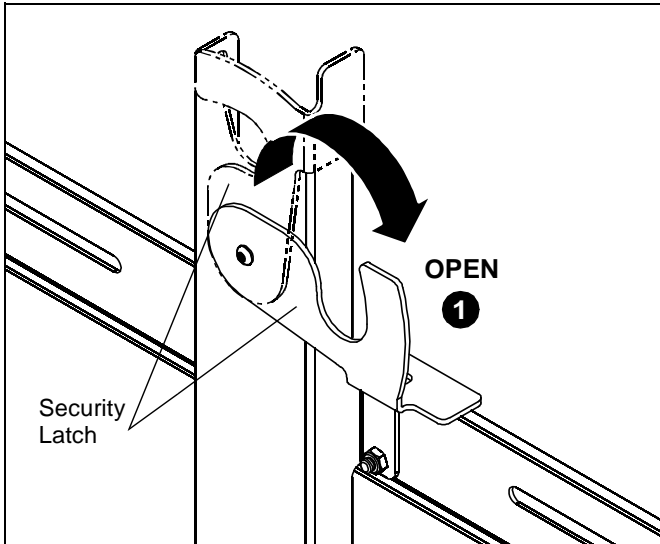

Figure 5
1. Move two security latches on mount to the OPEN position. (See Figure 5)